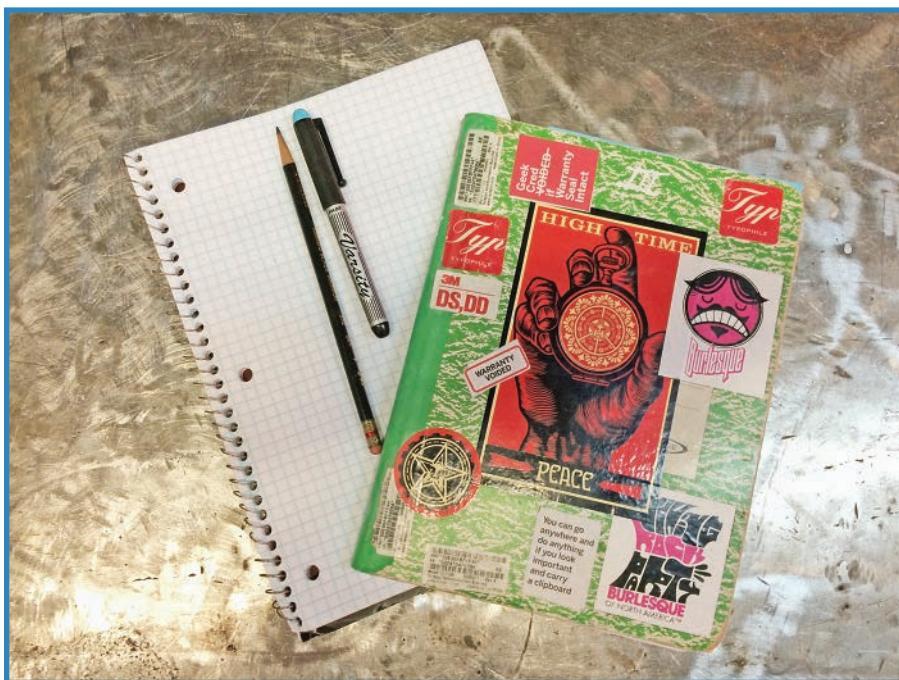

FIGURE 9.1 Chances are, designing your next project will involve a sheet of paper and a pencil.
- **Pens and pencils**—Even if you always keep your notes on the computer, you should always keep some regular drawing utensils, as shown in Figure 9.1, if only for marking things to be cut.
- **Notebook and graph paper**—You'll need paper to go with those pens. I use a composition notebook, such as the one shown in Figure 9.1, but also will use quad-ruled paper (that is, graph paper).